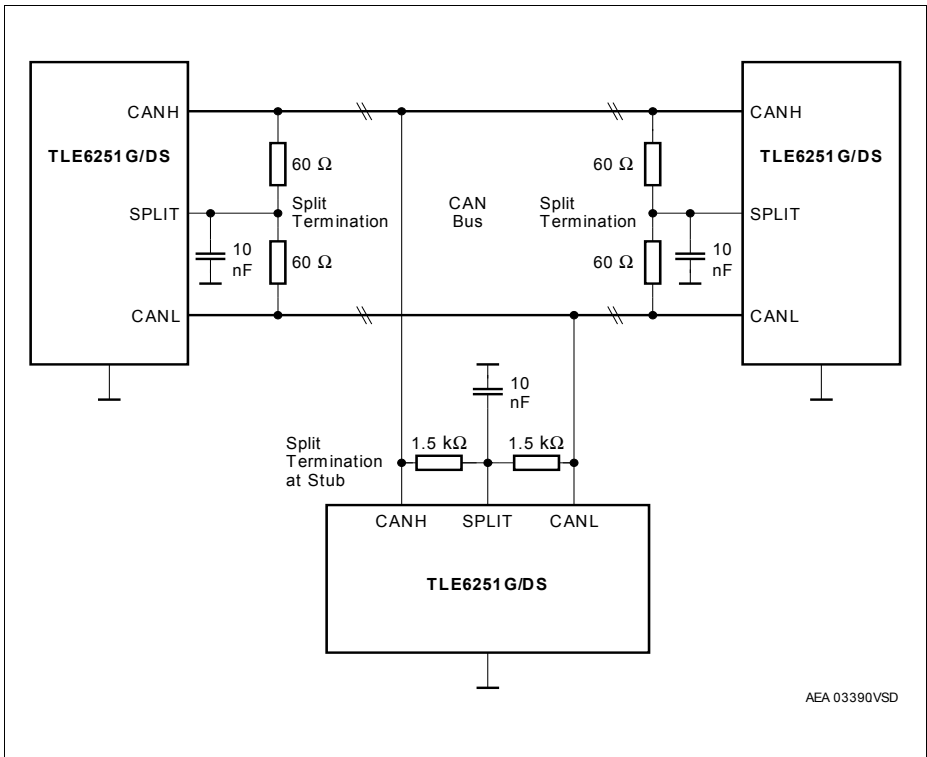

**Figure 6** Wake-up behavior
1) Signal at RxD changes corresponding to the bus signal during stand by mode. See **Figure 6**
During standby mode, a dominant CAN message on the bus longer than the filtering time  $t > t_{WU1}$ , leads to the activation of the wake-up. The wake-up during standby mode is signaled with the RxD output pin. A dominant signal longer  $t > t_{WU1}$  on the CAN bus switches the RxD level to LOW, with a following recessive signal on the CAN bus longer  $t > t_{WU2}$  the RxD level is switched to high, see Figure 6.